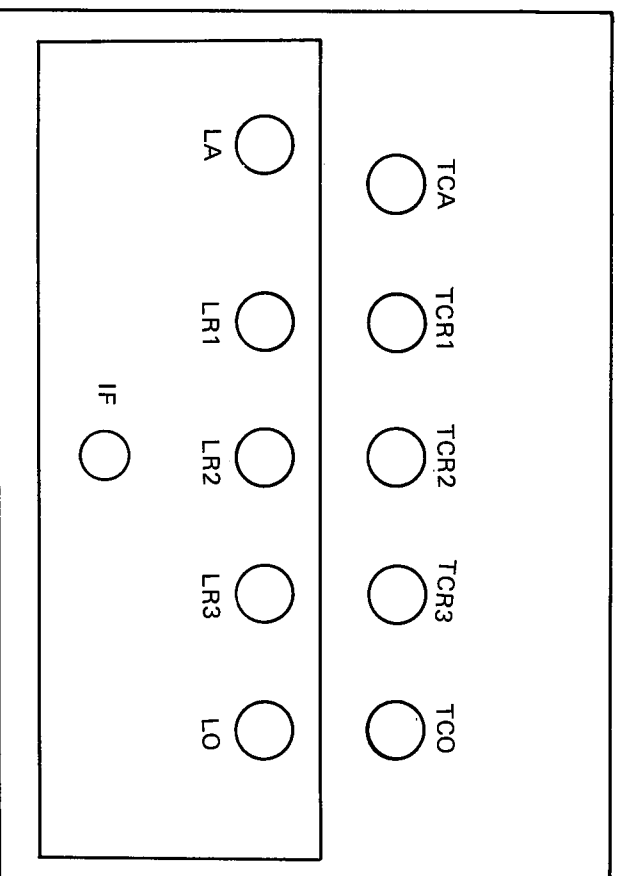

Figure 4. FM FRONT END (TOP VIEW)
5. Attenuate generator output for $0 \sim 6$ dB. Tune the unit for 98 MHz modulated signal, then adjust "IF" transformer located in Front End (Figure 4) until M2 indicates maximum deflection.